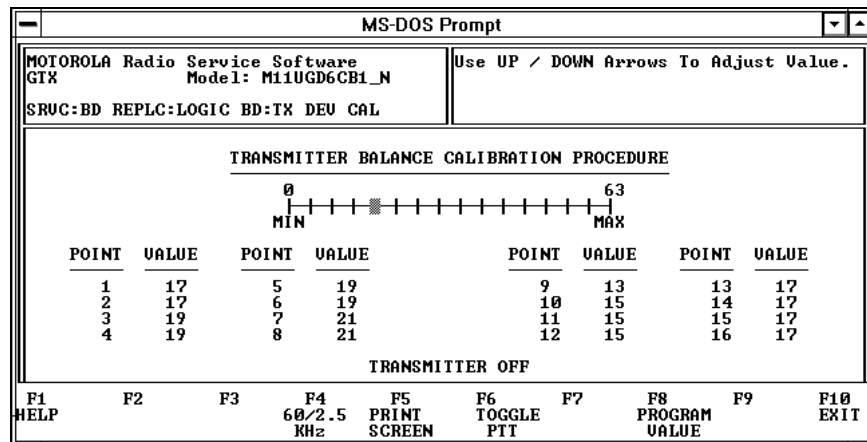

Figure 11.11 – Transmit Deviation Calibration
1. Press F6, "Set TX DEVIATION CALIBRATION", from the board replacement menu. The balance calibration screen is shown in Figure 11.11.